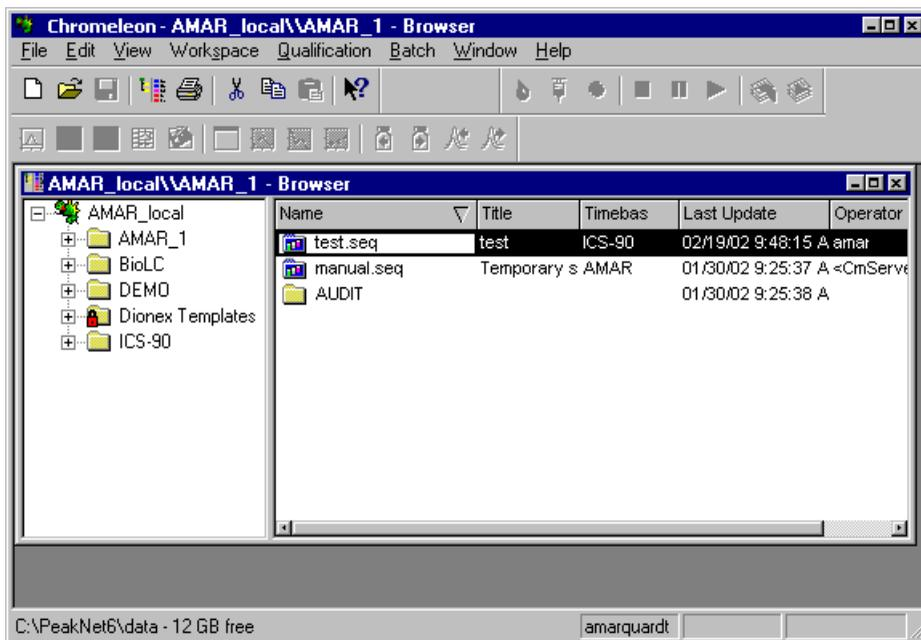

Figure 3-2. Chromeleon Main Window and Browser
3. From the Windows **Start** menu, select **Programs** > **Chromeleon** > **Chromeleon** to start Chromeleon. A window similar to Figure 3-2 will open. If the Browser is not open, select **Browser** from the **File** menu to open it.
background and zero the reading by clicking the **Autozero** button on the Control panel (see Figure 3-2).